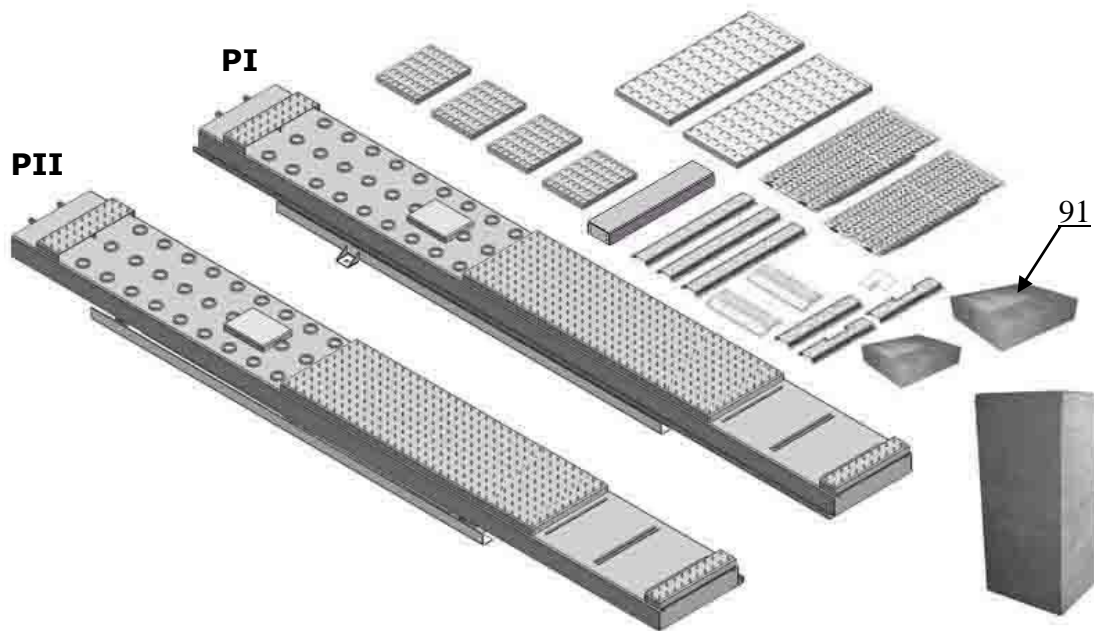
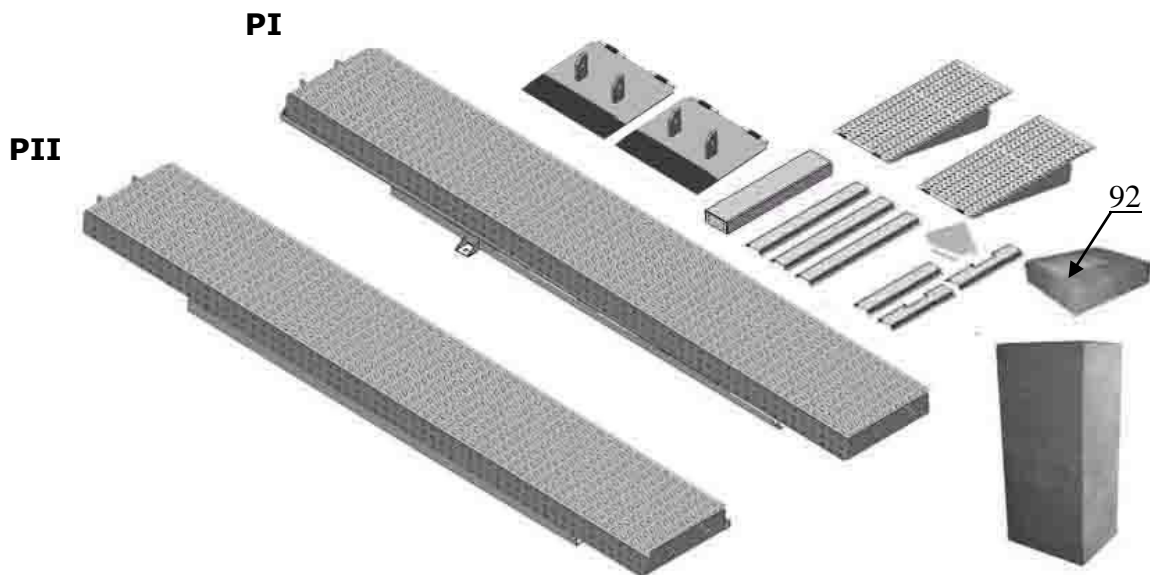

Fig. 11
Fig. 12
2.1 Parts for on surface installation (See Fig.11, Fig.12)